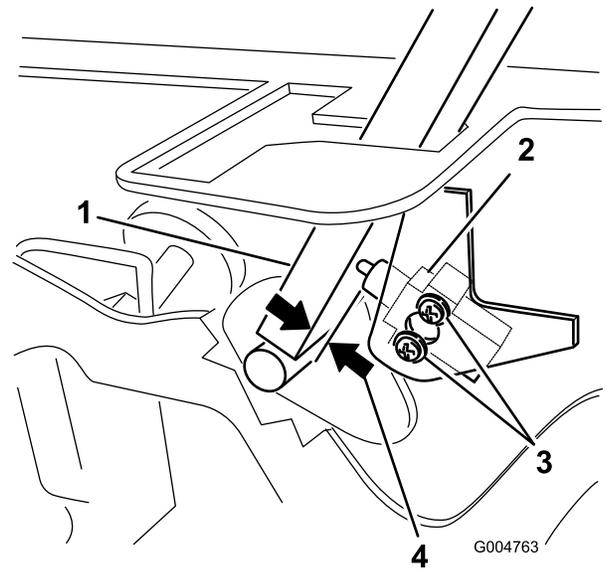

Figure 83
3. Loosen the 2 screws securing the interlock switch (Figure 83).
4. Holding the control lever against the frame, move the switch toward the lever until the distance between the lever and switch body is 0.4 to 1 mm (0.015 to 0.045 inch) as shown in Figure 83.